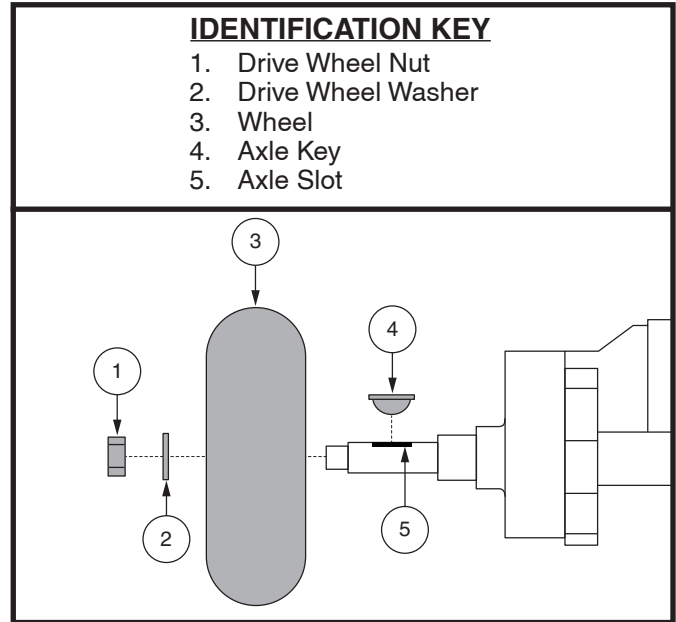

Figure 38. Wheel Replacement
3. Remove the drive wheel nut and washer from the axle. See figure 38.